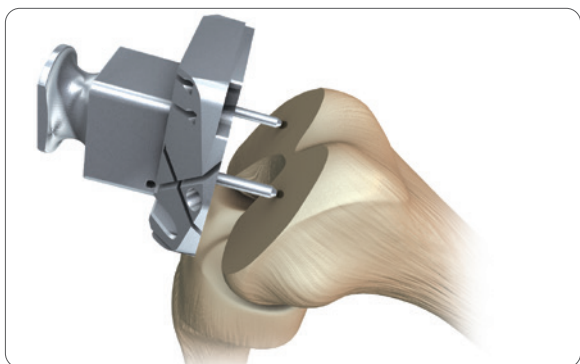

Figure 28
1. Position the spikes on the DCF A/P Femoral Block into the pre-drilled holes (**Figure 28**). Use the Mallet to impact the A/P Block assembly until the block is flush with the resected distal femur. Remove the A/P Block Impactor.